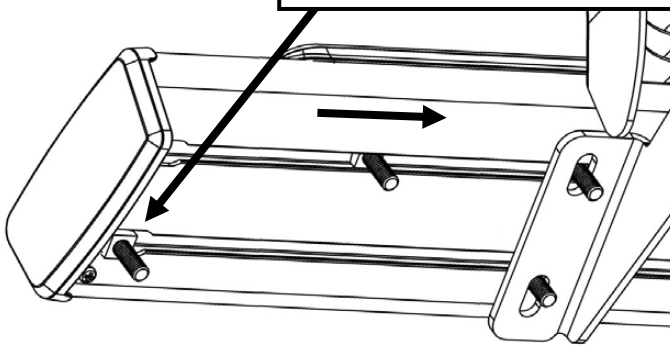

Figure 3
5. **For Part Numbers 28-51175 / 28-51185:** Locate (1) driver side step board (Item 1) and (6) M8 square head bolts (Item 6). Slide the M8 square head bolts through the slots underneath the step board and align with the previously installed mount brackets. Repeat for passenger side. See **Figure 3**.